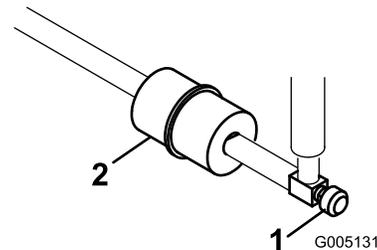

Figure 35
The in-line fuel filter is in the fuel line between the fuel tank and carburetor (Figure 35).
- Close the fuel-shutoff valve (Figure 35).
- Place a drain pan under the filter, loosen the hose clamp on the carburetor side of filter, and remove the fuel line from the filter (Figure 35).
- Loosen the other hose clamp and remove the filter (Figure 35).